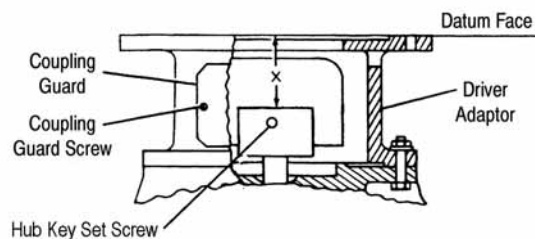

Figure 2. Gearbox Coupling Hub
- (2) Coupling installation for turbine drivers is identical to that for motors.
- (3) The gearbox coupling hub will normally be mounted at the factory. The driver coupling hub will be mounted on all motors and turbines shipped from the Sundyne factory. If the driver hub is mounted upon receipt of the unit, skip to Step (5), Page 5, for installation instructions.
- (4) If the driver coupling hub is not mounted, the following procedure should be followed for Falk or Thomas couplings:
- (a) Measure the distance from the top surface of the gearbox hub to the datum face of the driver adapter (Figure 2). This will be called the "X" dimension.